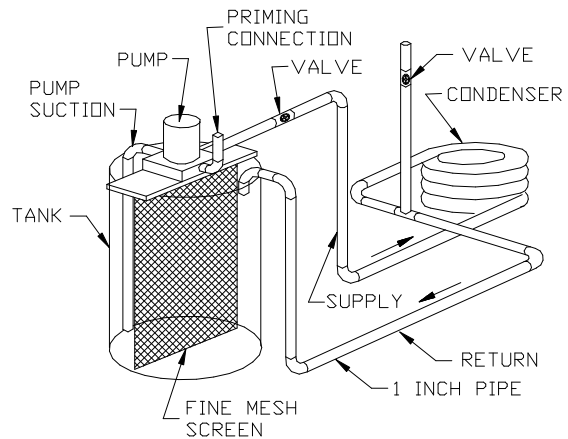

FIGURE 10 - FORCED CIRCULATION METHOD
FORCED CIRCULATION METHOD (Figure. 10) -
2. Fill system as shown in figure 10. Follow acid manufacturer's instructions. Fully open vent pipe when filling system. The vent may be closed when system is full and pump is operating.